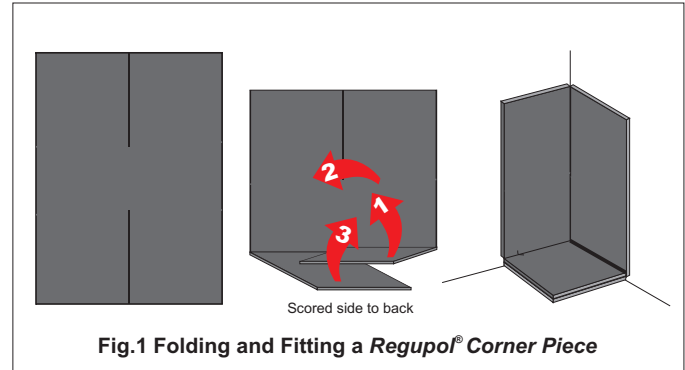

Fig.1 Folding and Fitting a Regupol® Corner Piece
2. **Position the Regupol® Corner Pieces** into each of the internal corners, with the bottom folds laid flat on the sub-floor for stability purposes (see Fig. 1).